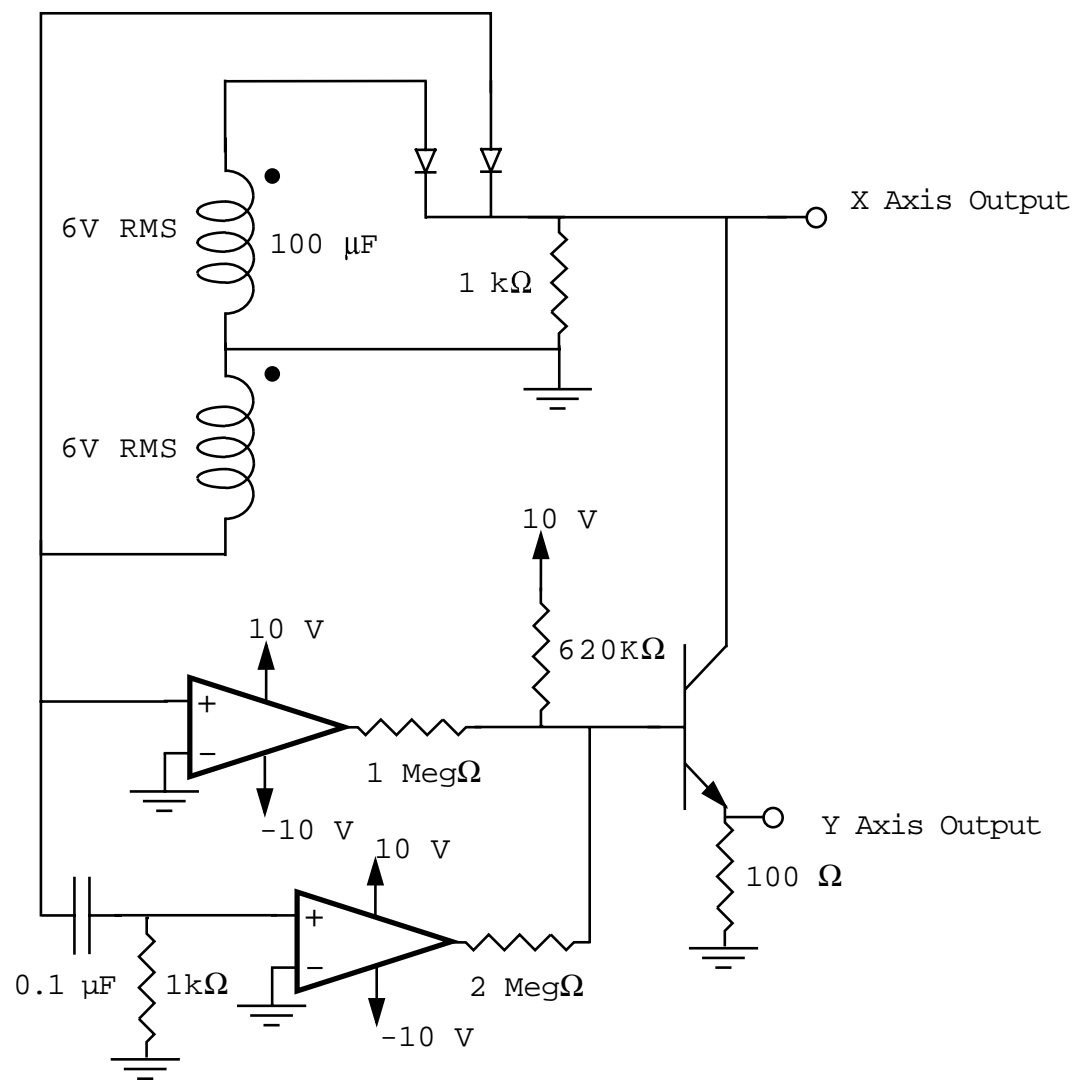

Fig 1
2) Consider the circuits shown in Figs. 1 through 4, which will be used to test the performance of common collector and drain (Figs. 1 and 2) and grounded emitter and source (Figs. 3 and 4) transistors, respectively. Complete the design, by choosing values for  $R_1$ ,  $R_2$ ,  $R_3$ , and  $R_4$  to produce reasonable currents and voltages. The function of  $R_1$  is to provide a path to ground in the absence of an input signal.  $R_2$  generates a voltage drop from the base or gate current; since these currents are small,  $R_2$  should be chosen large to make the voltage easier to measure.  $R_3$  and  $R_4$  are load resistors, and should be chosen to match the characteristics of the device under test. **Make sure the chip's pin 14 is at 5 volts and pin 7 is at ground in all the figures.** Observe the waveforms at points A, B, and C. As discussed above the voltage difference between points A and B is a measure of the current drawn from the input signal. *Can you detect any current drawn by the FET?* (**Careful:** The 'scope draws some current!)
Compare the emitter follower in Fig. 1 to the source follower in Fig. 2. The voltage difference between points B and C is a measure of the ability of the output to "follow" the input. For the emitter follower this voltage difference is about 0.7 volt, while for the source follower it is approximated by  $V_t + 2I/g_m$  where  $g_m$  is the transconductance. *What  $V_t$  do you measure on the scope?*